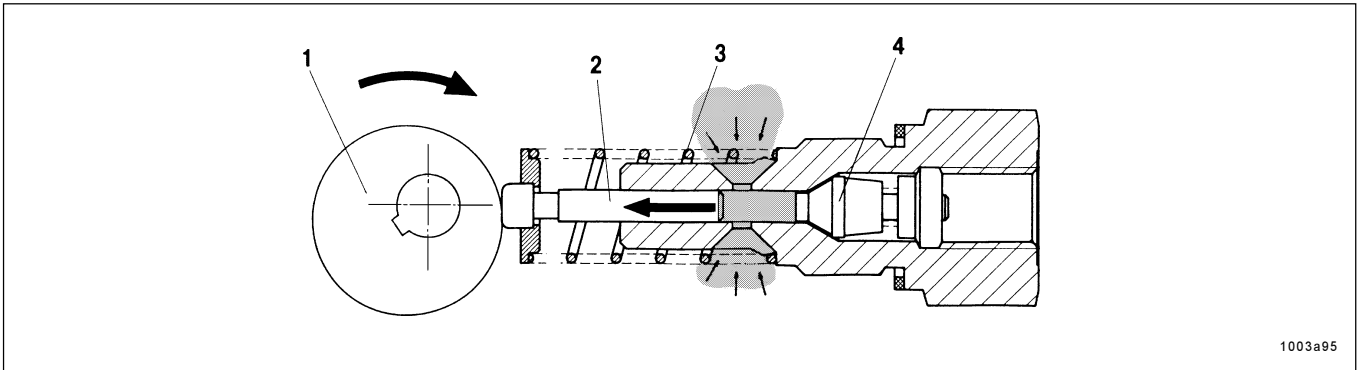

Fig. 7 - The pump element sucks in lubricant.
- The electric motor drives the eccentric (1, fig. 7, 8).
- piston 2 sucks in lubricant from the reservoir, see fig. 7.